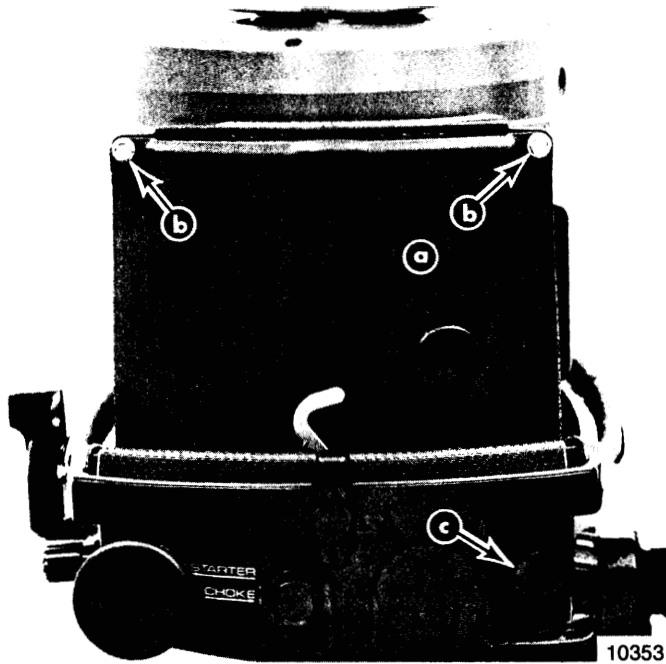

Figure 1. Front View of Merc 40
3. Remove sound box cover (4 screws) and sound box (2 screws). (Figures 1 and 2)
2. Using your fingernail or a plastic scraper, remove "Starter/Choke" decal (Figure 1) from bottom cowl.
3. Remove and discard small plastic plug (Figure 1) from bottom cowl.